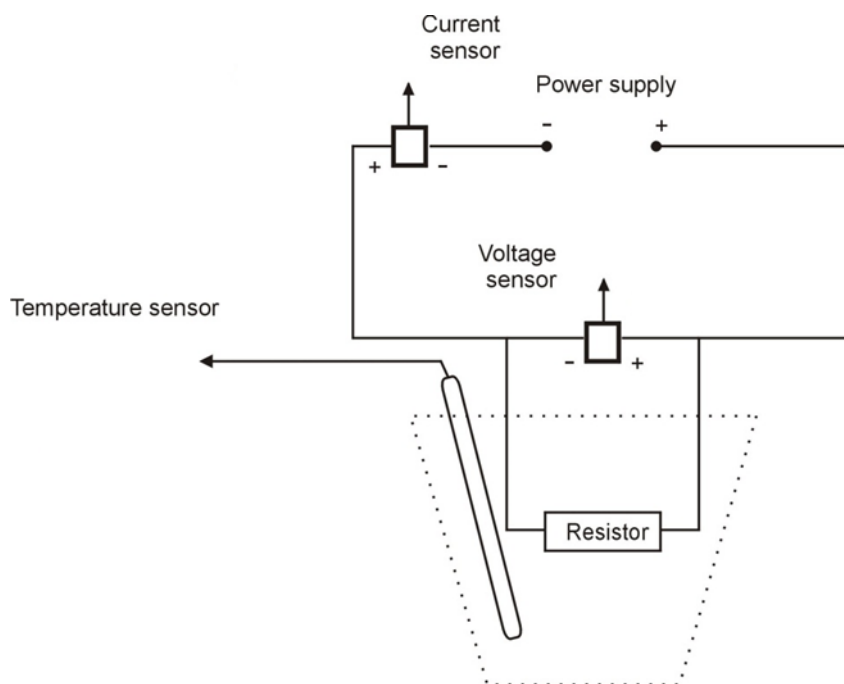

Figure 2
6. Assemble the setup as shown in Figure 1 and Figure 2: